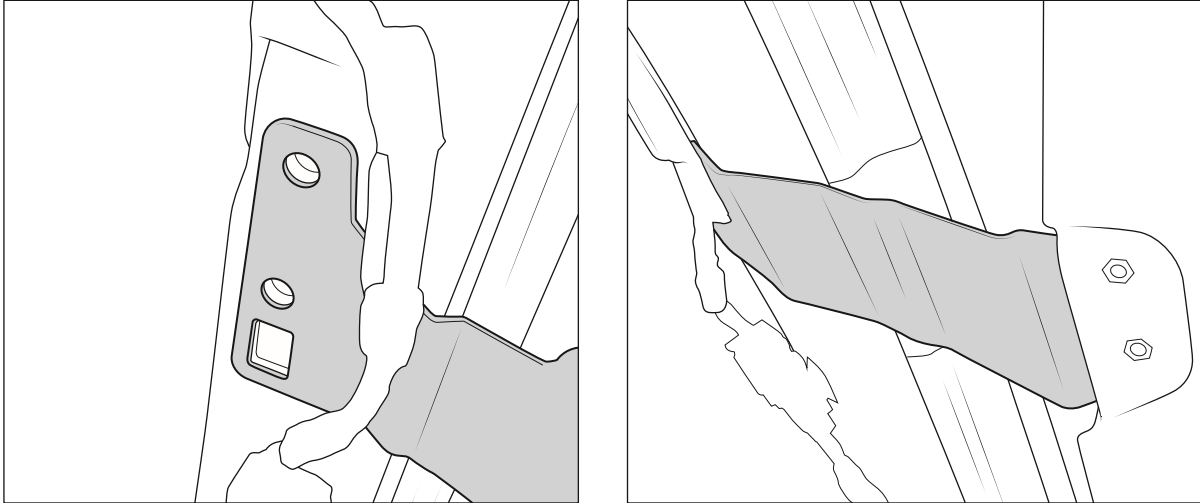

Figure 22
8. Hold bracket in position so square cutout and mounting holes line up with matching holes in A pillar (fig. 22). Reinstall trim panel/grab handle and hold in position while reinstalling bolts. Tighten bolts to 100 in-lb.